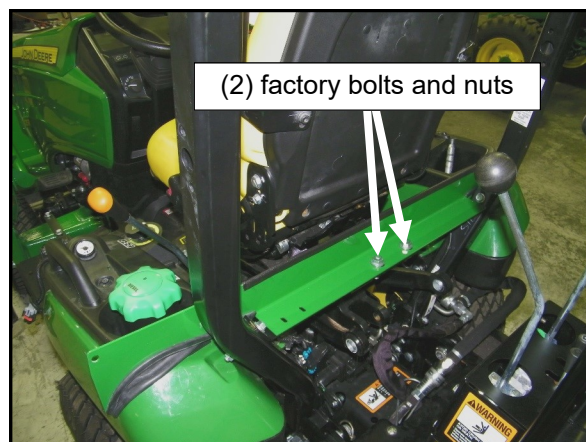

Fig. 3.1 (Lower Rear Panel- Left Side of Vehicle)
**3.1** Fasten the lower rear panel to vehicle lower bent flange using original factory bolts, nuts and mounting location. Making sure that rubber is on the outside of the fenders pointed towards the back of the tractor. See figure 3.1. *Note: there are two slots on the left side that do not get hardware.*